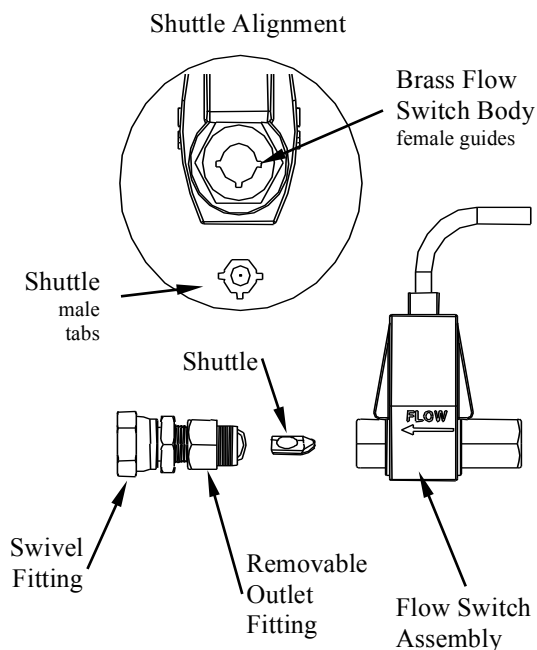

Figure 19
- Insert shuttle into brass flow switch in orientation shown in Figure 19.